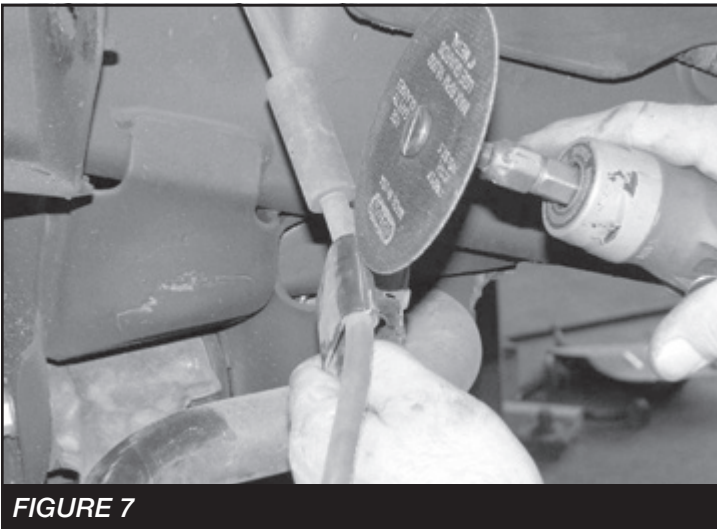

FIGURE 7
9. Using a die grinder, partially cut the brake line bracket. This will allow the bracket to be bent and removed from the brake line. Be careful not to damage brake hose. **SEE FIGURE 7**